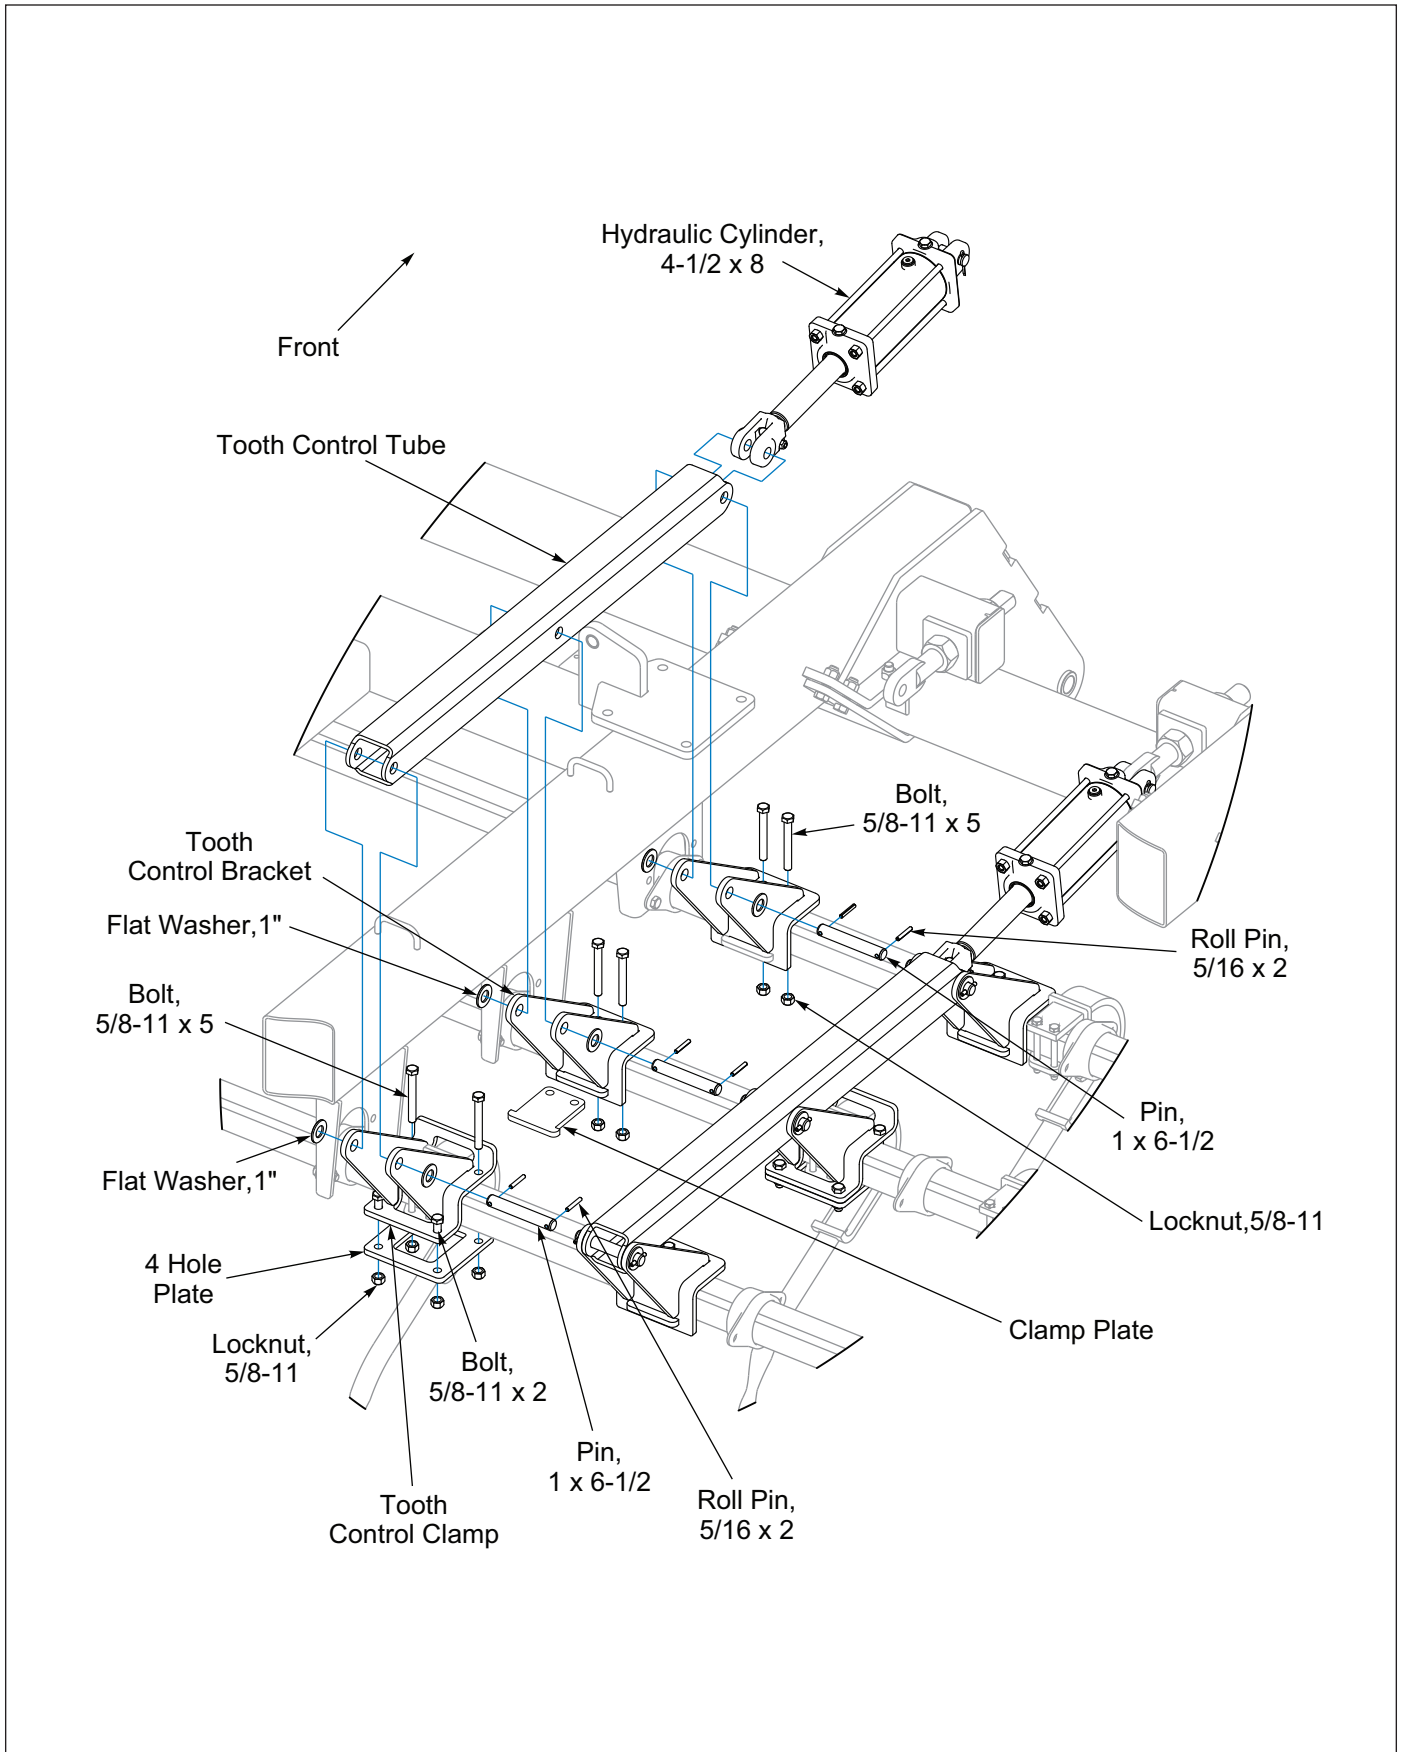

Figure 2-31: Center Frame Tooth Control Linkage
1. Attach a Tooth Control Bracket on the top of the left Front Tooth Tube by sliding a Clamp Plate into the Tooth Control Bracket Slot and under the Tooth Tube. Secure with 5/8-11 x 5 Bolts and Locknuts. **Do Not** tighten at this time. **See Figures 2-31 and 2-32.**
1. Attach a Tooth Control Bracket on the top of the right Front Tooth Tube by sliding a Clamp Plate into the Tooth Control Bracket Slot and under the Tooth Tube. Secure with 5/8-11 x 5 Bolts and Locknuts, **Do Not** tighten at this time. **See Figures 2-31 and 2-32.**